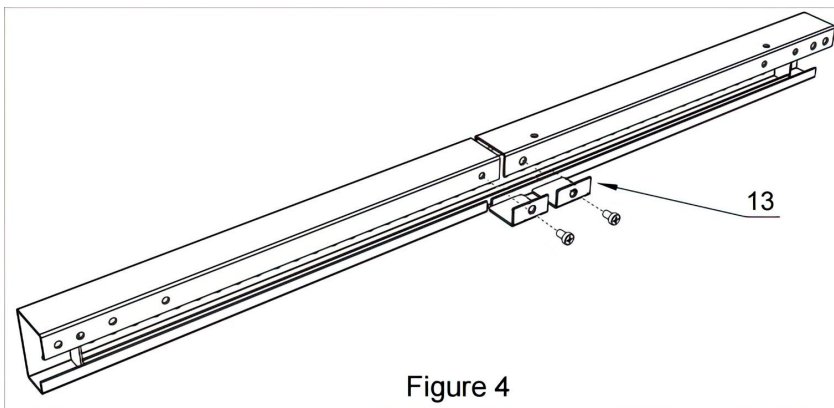

Figure 4
4. Place two Limit parts(#13) on Corner Brackets,Tighten the M5*10 Cross head screws(⑧) using Electric screwdriver. (Figure 4)